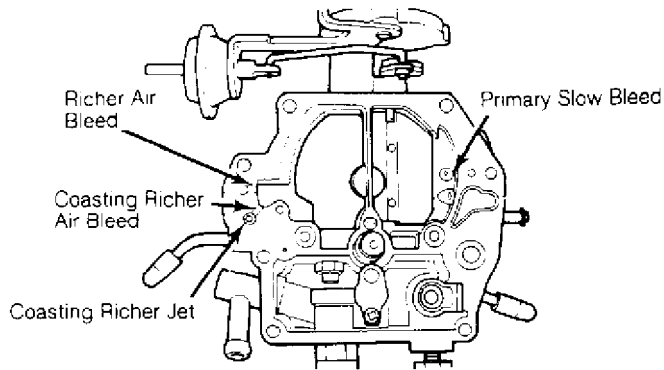

Fig. 13: Locating Air Bleeds & Jets (Air Horn)
2) Remove richer air bleed, primary slow bleed, coasting richer air bleed and coasting richer jet from air horn. See Figs. 13 and 22.